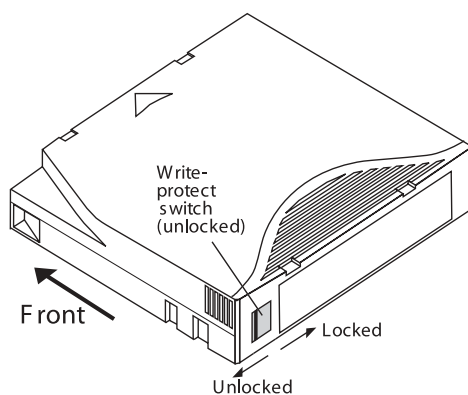

Figure 17. Ultrium Cartridge Showing Write-protect Switch
Ultrium cartridges have a sliding write-protect switch near the back right corner of the cartridge, as shown in Figure 17 on page 35.
- If you slide the switch all the way toward the corner (as shown in Figure 17 on page 35), data can be read from and written to the cartridge.